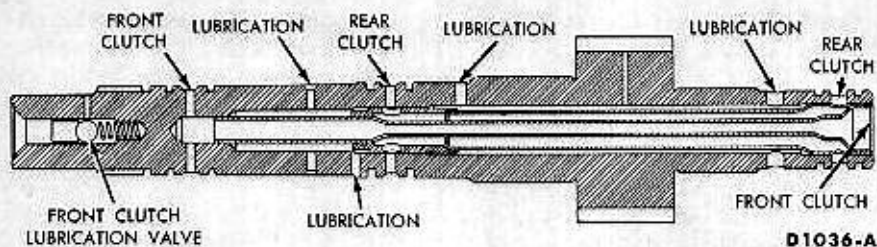

FIG. 9—Cross-Section of Primary Sun Gear Shaft
8. Inspect the primary sun gear for broken or worn teeth. Inspect all thrust surfaces and journals for scores. Check all fluid passages (Fig. 9) for obstructions and leakage. Inspect the seal ring grooves for burrs.